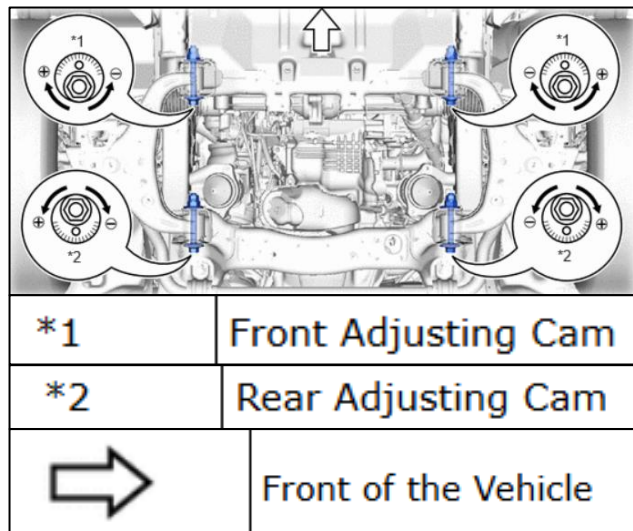

Fig. 25-1
- (1) Use wheel alignment tester or equivalent.
- (f) Adjust Camber and Caster (Fig. 25-1)
- (1) Loosen the bolt and nut.
(2) Turn the adjustment cam to adjust the camber and casters to the target value.